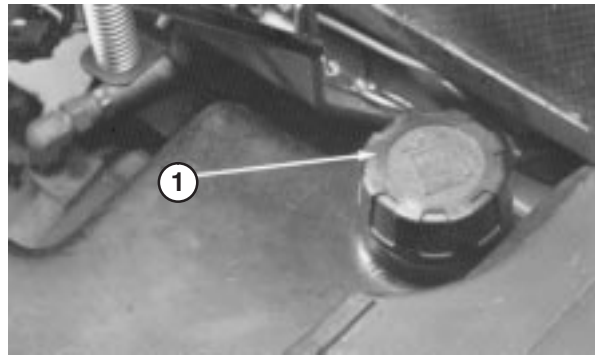

Figure 16
1. Tip seat forward and prop it with the support rod so it cannot fall accidentally (Fig.16). Using a clean rag, clean area around fuel tank cap.